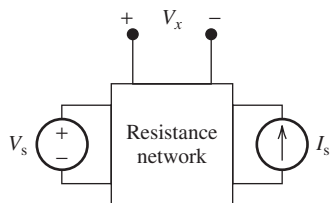

FIGURE P3.71 Circuit for Problem 3.71.
- 3.71** (H) When $V_s = 4$ V and $I_s = 2$ A, then $V_x = 8$ V; when $V_s = 7$ V and $I_s = 1$ A, then $V_x = 6$ V. Find the voltage V_x in Figure P3.71 using the superposition principle when $V_s = 2$ V and $I_s = 6$ A.